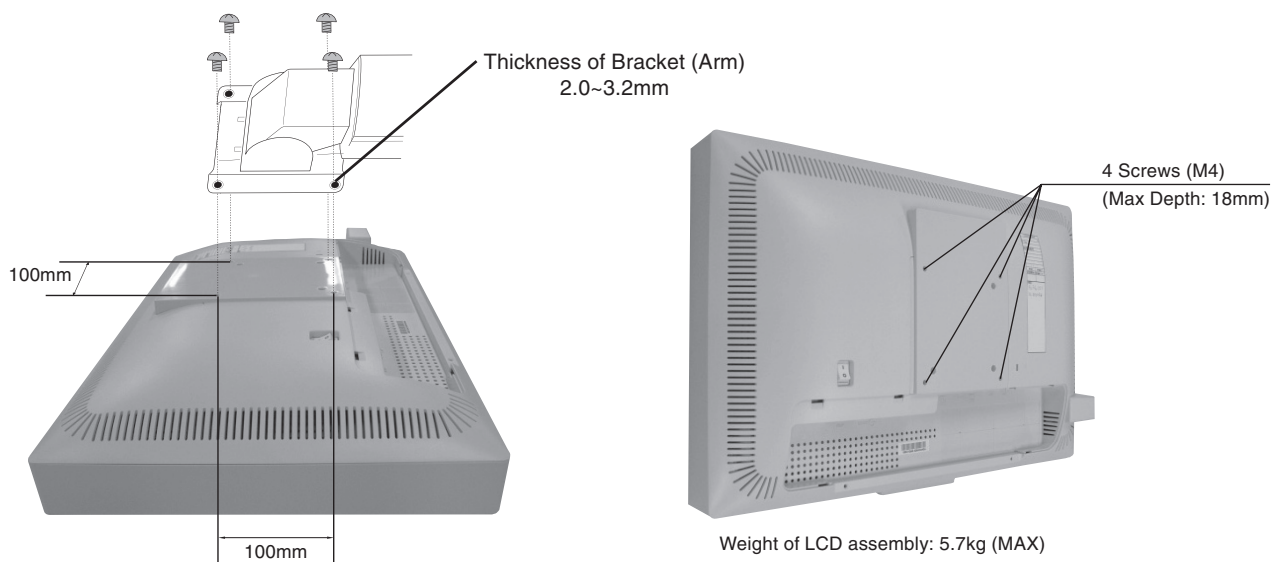

Figure F.1
2. Use the 4 screws from the stand removal and attach the arm to the monitor (**Figure F.1**).